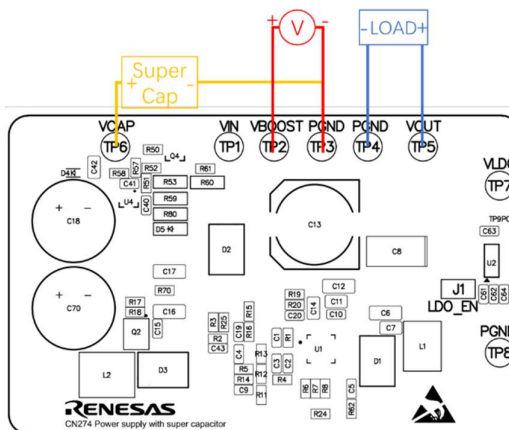

Figure 3 Discharger and 2-stage Boost-Buck mode
- 4, When the charging voltage of the ultracapacitor reaches the set value, make sure the voltage does not increase. At this point, connect the oscilloscope to the VBOOST (TP2) and GND(TP3) and disconnect the power supply. Refer to Figure 3.
- 5, Verify the output voltage is 3.3V and use oscilloscope to monitor the supercapacitor voltage. Refer to Figure 3.